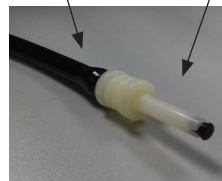

Figure 2.13
3. Air Path Connection: Take a piece of air tube (0.5~1m long, $\Phi 8.0\text{mm}/\Phi 4.0\text{mm}$ diameter). Attach the NIBP connector with a connector plug on to one end of the air tube. Connect the other end to the 3-way connector. Connect the other 2 ends of the 3-way connector to a Mercury Sphygmomanometer as shown in Figure 2.13.